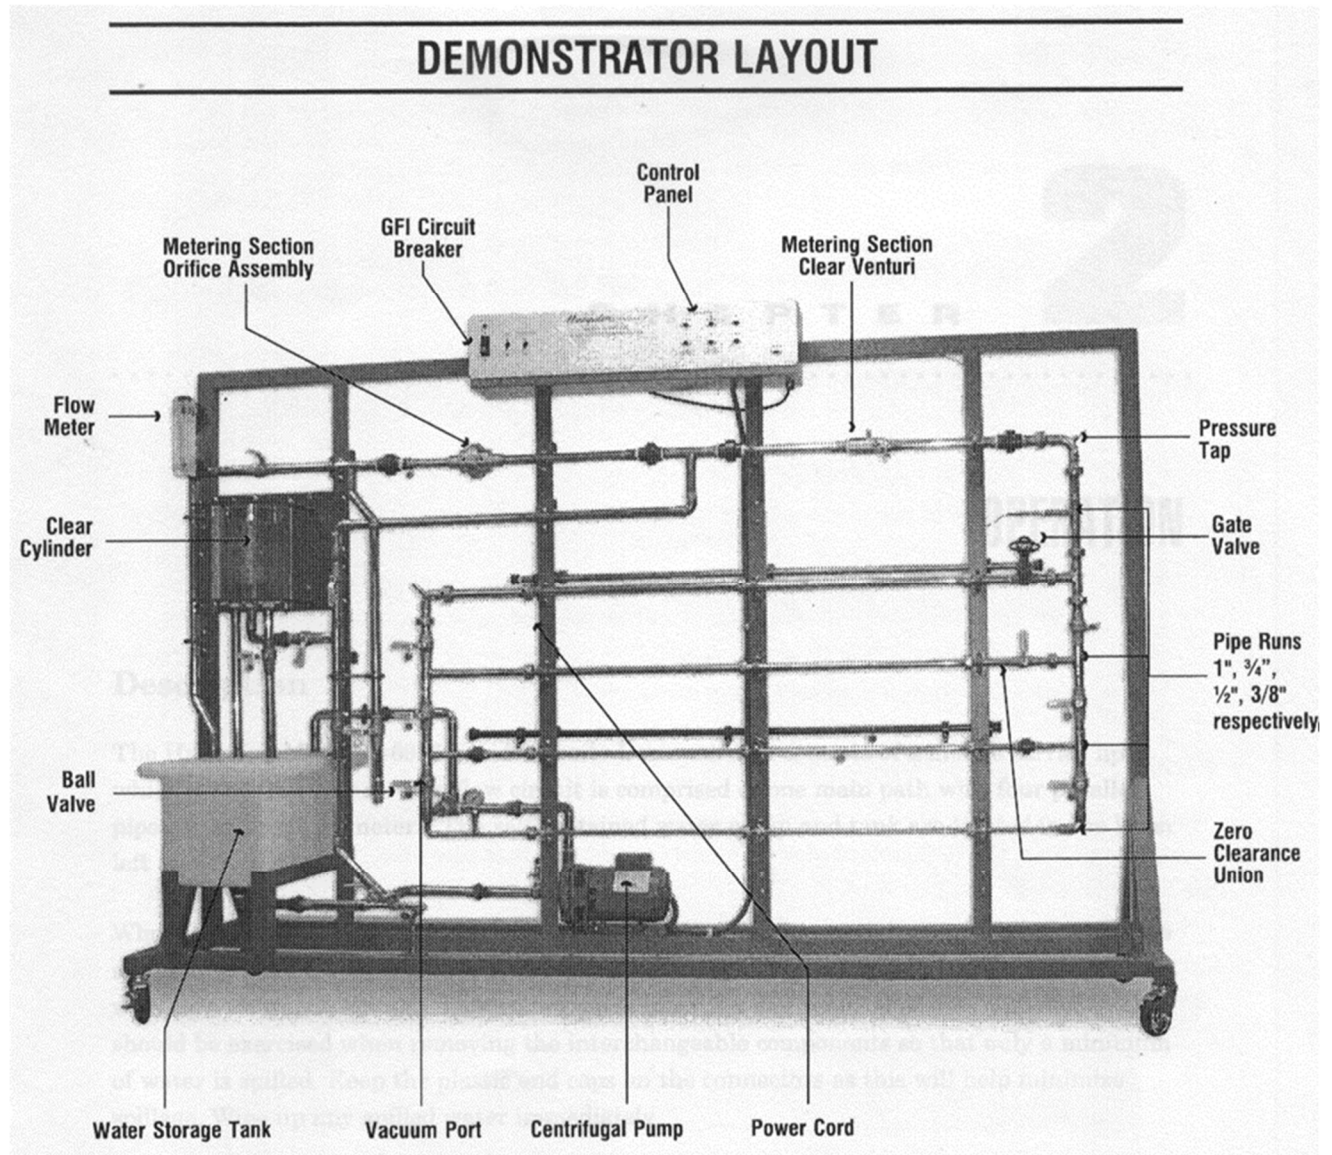

Figure 1: Hampden Model H-6925 Fluid Circuit Demonstrator
- Hampden Model H-6925 Fluid Circuit Demonstrator (Figure 1)